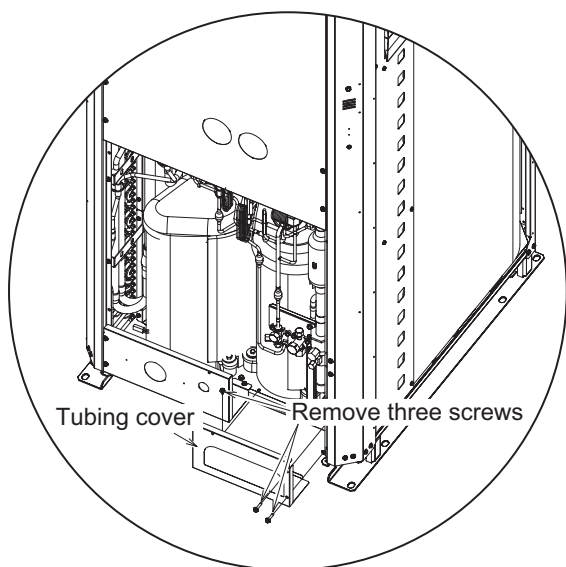

Fig. 2-22c
- (2) If the tubing is routed out from the bottom, use cutting pliers or a similar tool to cut out the tubing outlet slit (part indicated by  ) from the tubing cover. (Figs. 2-22c and 2-23b)